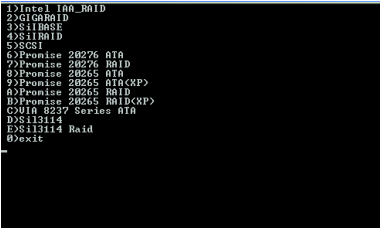

Fig. 2
Step 2: When the controller menu (Fig.2) appears, remove the startup disk and insert the blank formatted disk. Select the controller driver by pressing the corresponding letter from the menu. Your system will then automatically zip and transfer this driver file to the floppy disk. Press 0 to exit when finished.
(Note 1): For users without a startup disk. Use an alternative system and insert the GIGABYTE motherboard drive CD-ROM. From the CD-ROM drive (example: D:\) double click the **MENU.exe** file in the **BootDrv** folder. A command prompt window will open similar to that in Fig. 2.